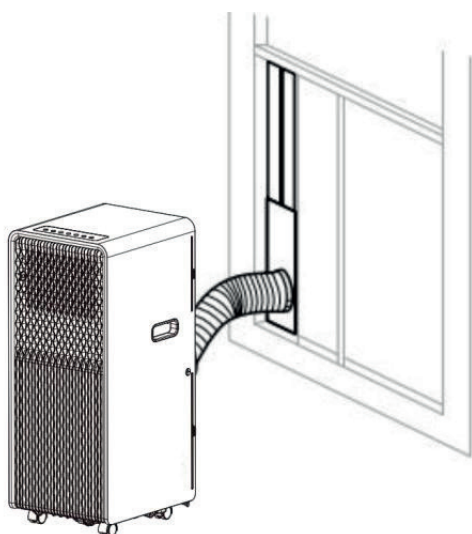
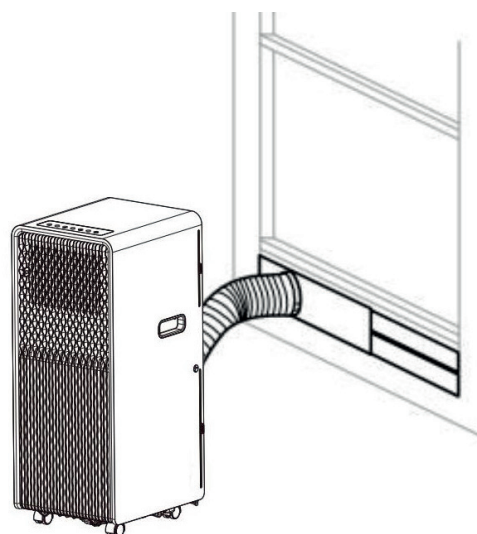

Fig. 2
Fig. 2a
2) As shown in Fig. 2 and Fig. 2a, install the exhaust hose, and adjust the window position well.